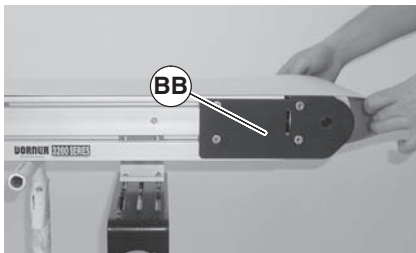

Figure 30
5. Remove belt (Figure 30, item BB) from conveyor, one stand at a time. Start on one end of conveyor and work down to opposite end.